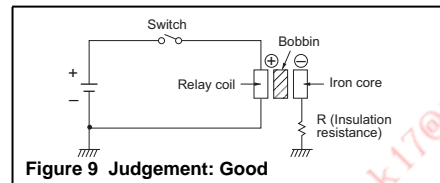

Figure 9 Judgement: Good
- Insert the contacts (or switch) in the \oplus side of the power source. (Refer to Figure 9) (Common to all relays)